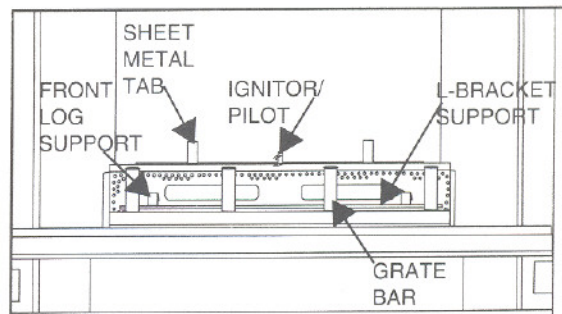
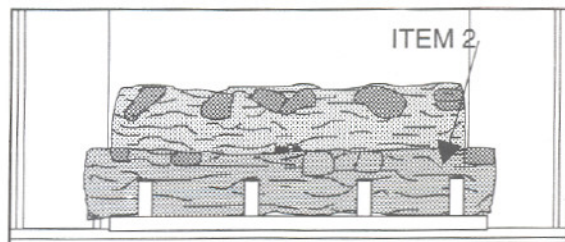

Figure 21
Figure 25
Before placing the Lava Rock and Vermiculite in either the GC361 series or GC421 series, install/make sure the four (4) Grate Bars are in their respective positions at the base of the Burner Pan Assembly. See Figure 21. The Grate Bars are packaged in with the Log Assembly.
1. Make sure sheet metal tabs, located on the Back Log Support, are upright, if not, bend to the up position. (See Figure 21.)
3. See Figure 25. Place the Front Log (Item 2) on the L-Bracket support and rest the flat portion of the log on the Front Log Supports. (See Figures 21 & 23.)